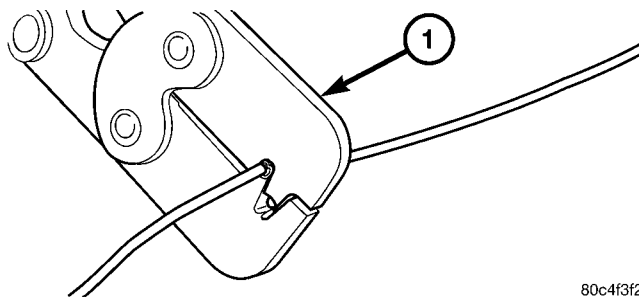

Fig. 2 CRIMPING TOOL
4. Using crimping tool, Mopar p/n 05019912AA, crimp the splice band and wires together (Fig. 2).